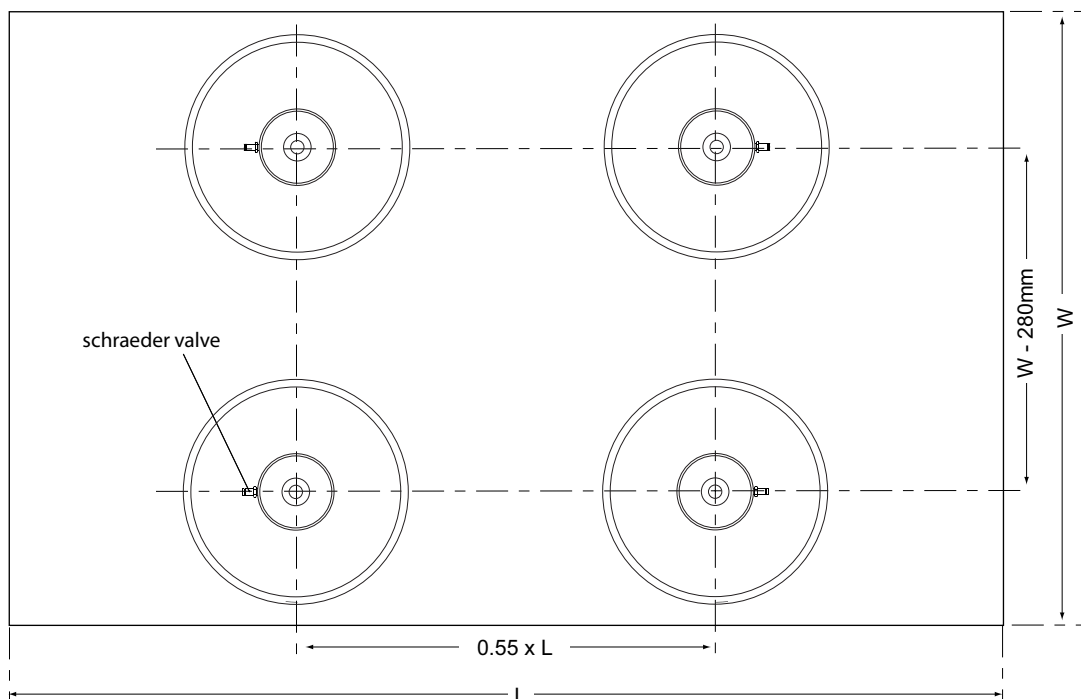

Fig. 2.3 Isolator positions
- 4) Position the isolators in approximately the correct position for the table – see Fig. 2.3 for dimensions. Note the position of the Schraeder valves and orientate the isolators as shown. Remove the lifting handles.
- 3) Ensure that the isolators are positioned correctly as identified by the location marks on the underside of the table – Fig. 2.3.